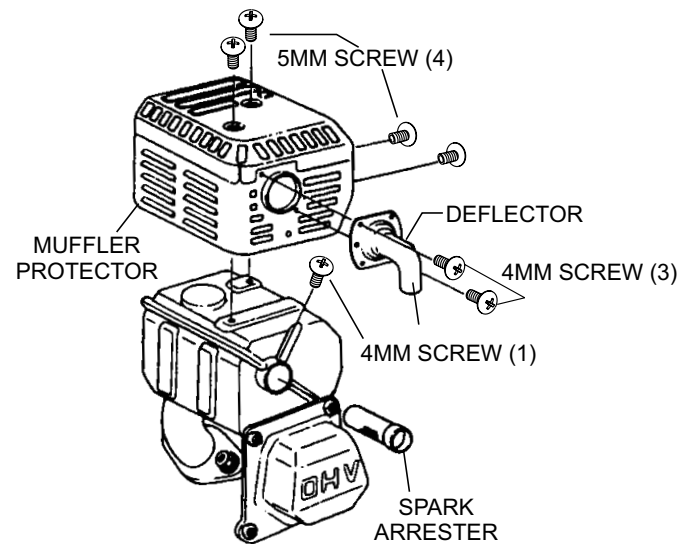

Figure 30. Spark Arrester Removal
1. Remove the 4 mm screw (3) from the exhaust deflector, then remove the deflector. See (Figure 30).
2. Remove the 5 mm screw (4) from the muffler protector, then remove the muffler protector.